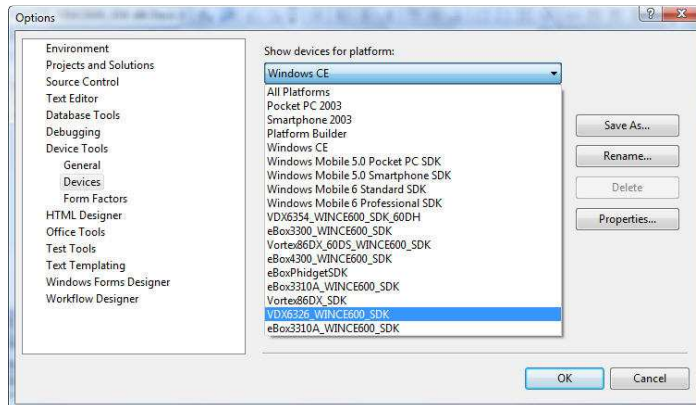

Fig. M07 - VS2008 Tools Options
- On the right, select **VDX6326_WINCE600_SDK** from the list of available platform in the **Show devices for platform** combo text box, and select **VDX6326_WINCE600_SDK x86 Device** as the default device, as shown in Figure M07.